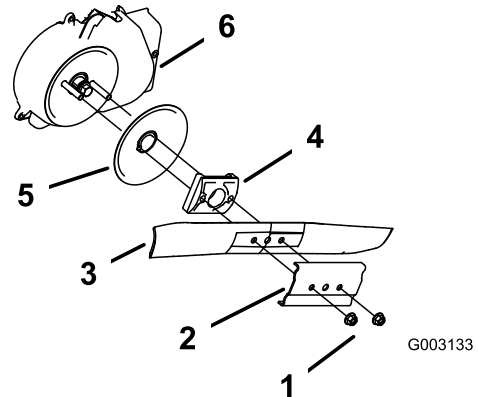

Figure 31
3. Remove the 2 blade nuts and the stiffener (Figure 31).
4. Remove the blade (Figure 31).
5. Install the new blade (Figure 31).